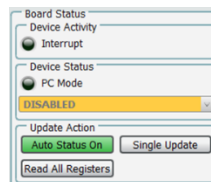

Figure 13: Board Status Indicator
**Smartcanvas section 2:** This module will show the performance board status information and will define whether the GUI displayed registers are automatically or manually updated. In order to enable the automatic updates, enable the “Auto Status On” button, see Figure 13. Alternatively, the user might opt to perform a single GUI register refresh/read-back by pressing the “Single Update” button and keeping the “Auto Status Disabled”. The “Read All Registers” button will update all registers including those not displayed in the active GUI screen.